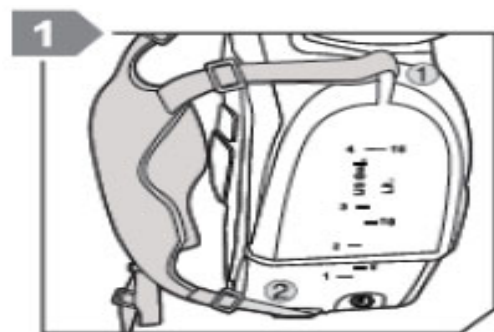

Fig. 16: Mounting the belt
Step 1: Remove the parts of the Battery Pressure Sprayer from the packaging and attach the belt to the Battery Pressure Sprayer (Fig.16).